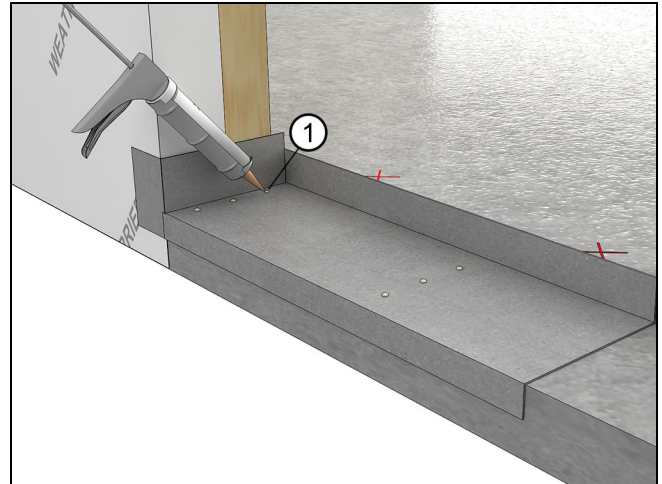

Figure 8
4. Inject the pre-drilled holes with sealant. See Figure 8.